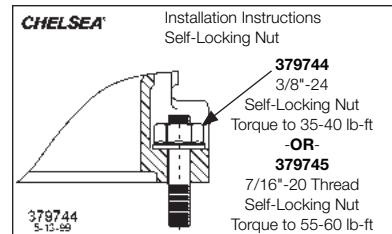

Figure 9
- NOTE:** Self-locking nuts do not require lock washers (Fig. 9).